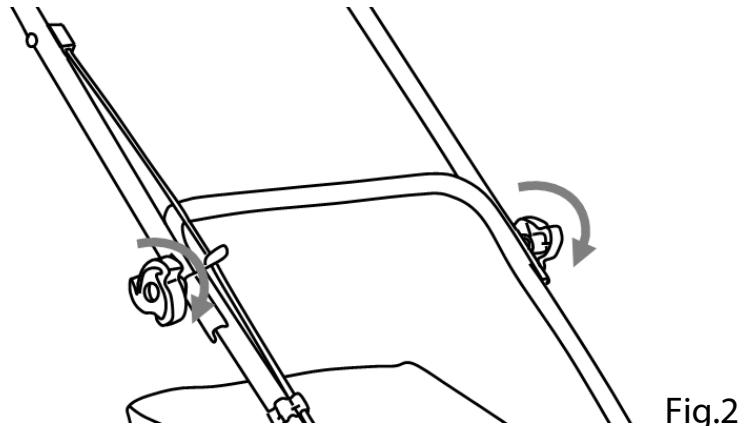

Fig.2
- ◆ Connect the upper handle and the lower handle with the rotary knob (Fig.2)